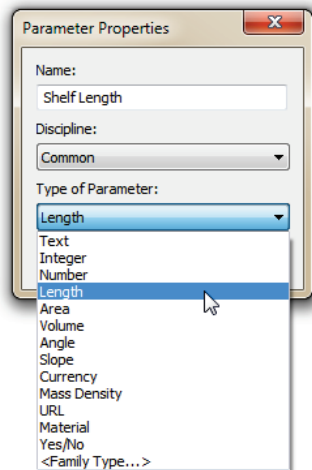

Figure 6—Create a new parameter
4. Input a name for the new parameter and choose the Type of Parameter. Click OK to complete the parameter (see Figure 6).